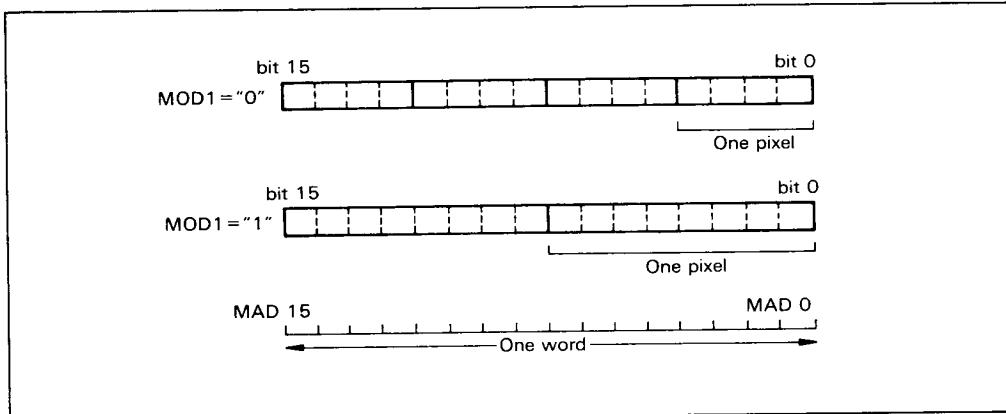

Figure 7. Pixel Data and MOD1
**ACRTC Display Data Bit Configuration :** The ACRTC handles display data on a pixel basis, the ACRTC's minimum unit. The ACRTC transfers data on a word (16-bit) basis. One memory word can consist of one or more pixels. The ACRTC's graphic bit mode (GBM) selects one of five types of pixel count. The GVACs directly support data transfers of 4 bits or 8 bits per pixel. In 4 bit/pixel mode, 16 colors or shades of grey can be implemented at one time. In 8 bit/pixel mode, 256 colors or 256 shades of grey can be realized. Figure 7 shows pixel data processed by the ACRTC depending on operation mode pin 1 (MOD1). For details on the graphic bit mode, see the ACRTC